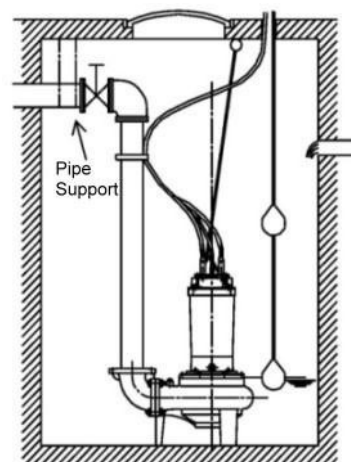

Fig.2
- If there is a flow of liquid inside the tank, support the piping to prevent abnormal vibration. (See Fig.2)